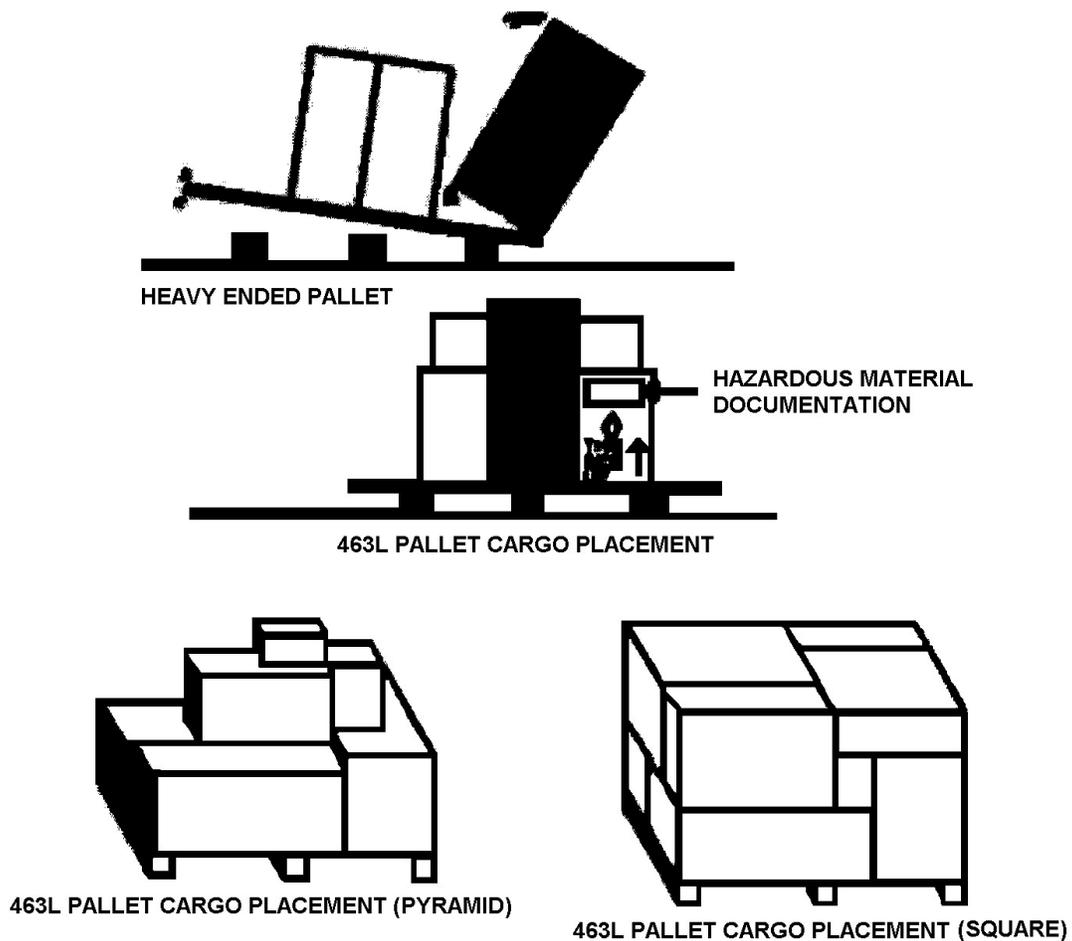

Figure 3-20
- (1) Arrange wooden 4 "X 4" X 84" boards to form three rows of support.
- (2) Arrange a minimum of nine sandbags to provide two outer and one centerline of support.
- b. Palletize cargo from the heaviest to the lightest items by following these guidelines (see Figure 3-20):